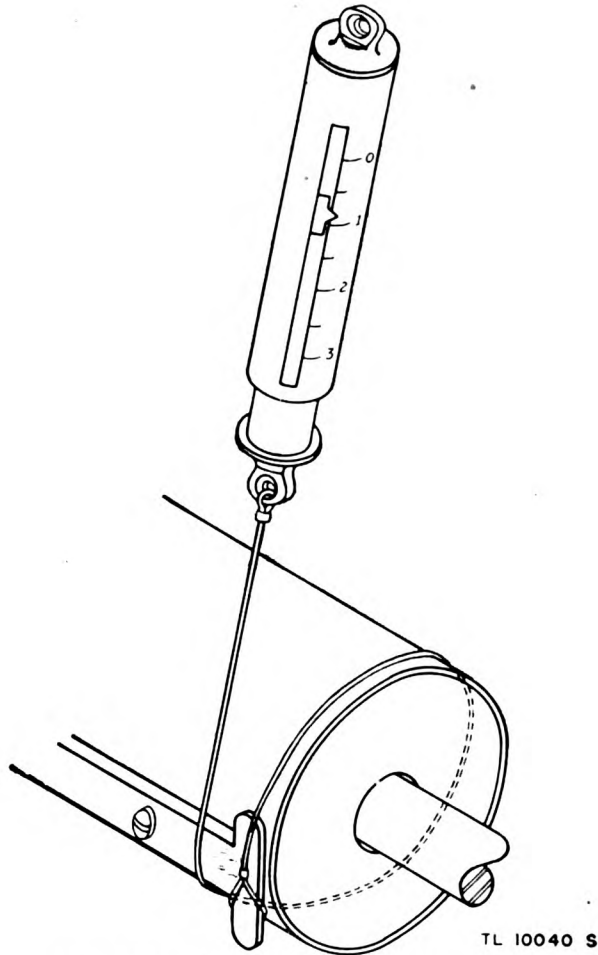

Figure 15. Method of measuring clutch tension.
i. CLUTCH (par. 79 and fig. 44). The clutch pressure must be tight enough so that there is no slip or creep. It must not be so tight that it causes stalling of the motor while phasing. Factory adjustment is made by hooking a fish scale onto the clamp bar of the drum and adjusting the pressure until the pull is between 12 and 16 ounces (motor running). (See fig. 15.) If there is a creep, it may be due to excessive friction between clutch ring B, and clutch bearing I. The cause of this friction can be removed by polishing clutch bearing I, and bearing surface of clutch ring B.